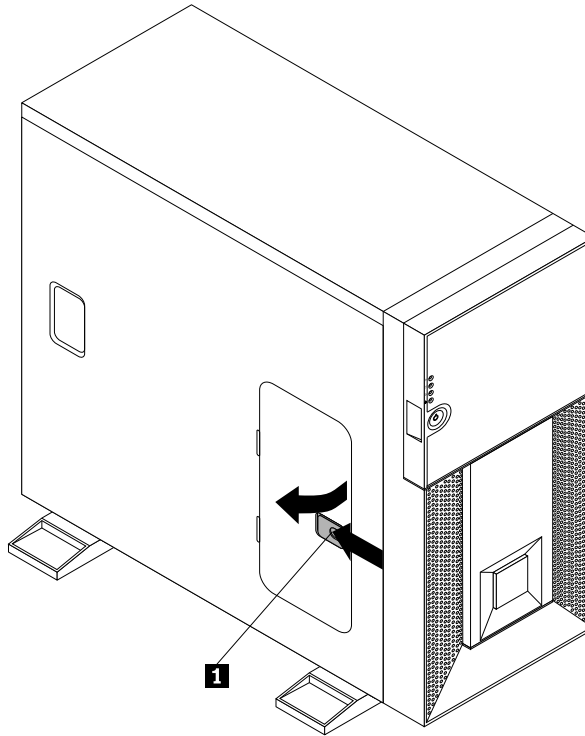

Figure 14. Opening the side door
3. To unlock the side door, remove the server cover. See “Removing the server cover” on page 23. Then, rotate the plastic latch of the side door to the open position. Reinstall the server cover. See “Installing the server cover” on page 91. The side door is unlocked and you can open the side door by pressing the blue button on it, as shown in Figure 14 “Opening the side door” on page 27.